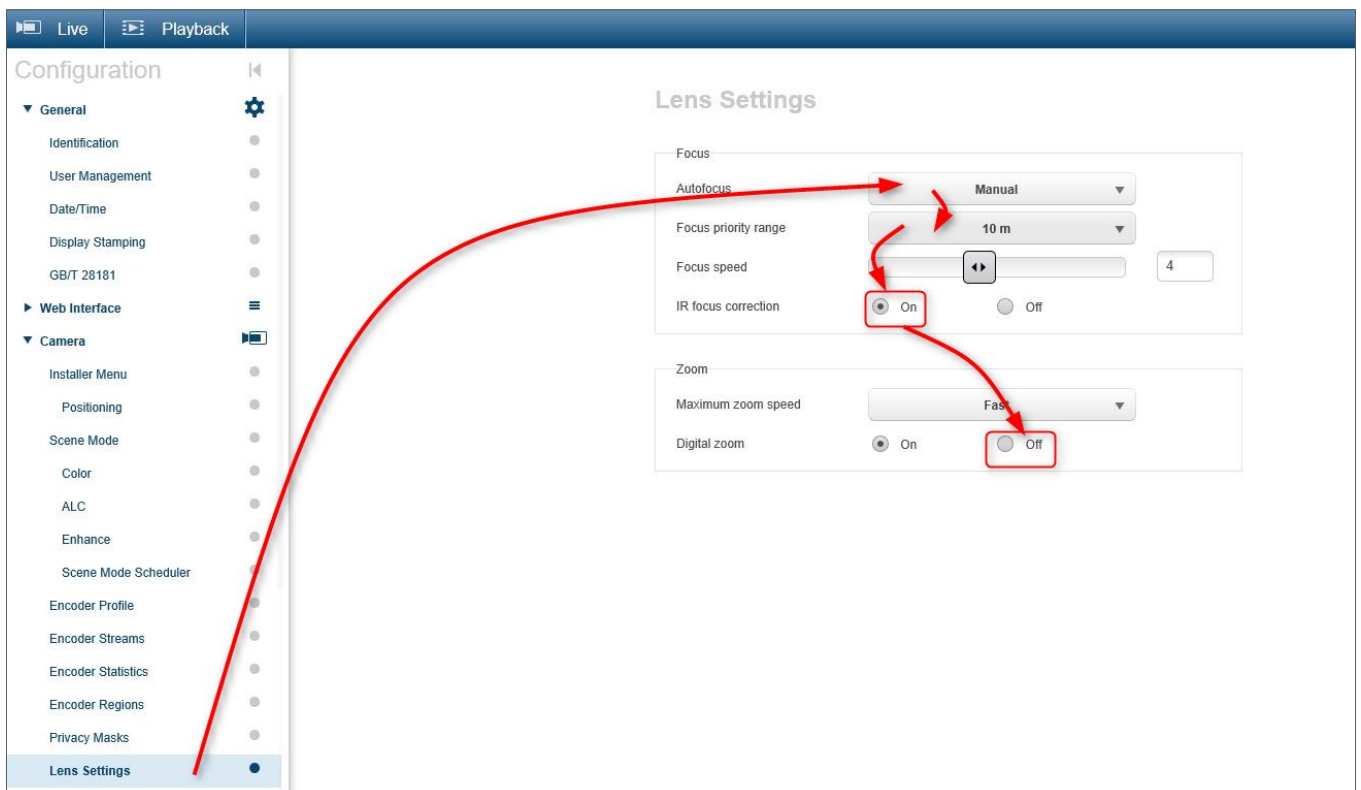

Figure 4
- ▶ In the Camera menu select Lens Settings (see figure 4).